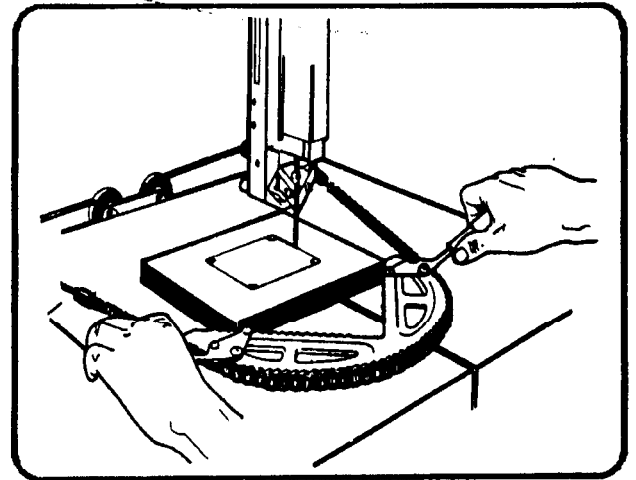

Figure 6-18. Work holding jaw device used for straight-line sawing with power feed.
- The work-holding jaw device on some machines can be connected to the power feed to produce straight-line cuts (Figure 6-18).